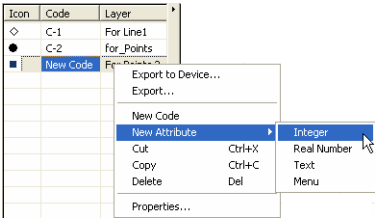

Figure 5-53. Select Attribute to Add
1. Right-click a code to add an attribute to and click **New Attribute** then select the attribute type on the pop-up menu (Figure 5-53).